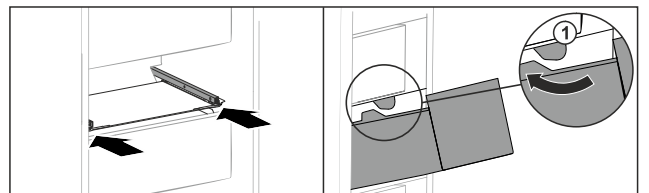

Fig. 161
- Guide drawer around the stoppers Fig. 161 (1).